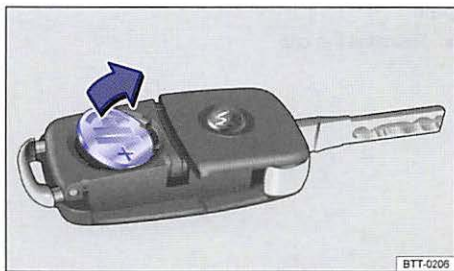

Fig. 20 Remote control vehicle key: Remove old battery.
- Use a thin object to pry the battery out of the battery compartment $\Rightarrow$ fig. 20.
- Position the cover as shown $\Rightarrow$ fig. 20 and press it down (opposite to direction of the arrow) until you hear it click into place.